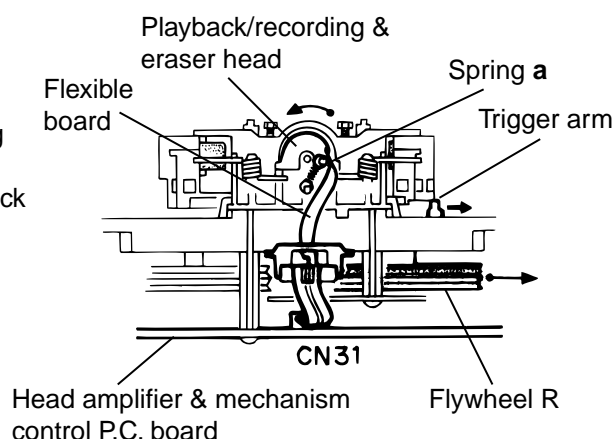

Fig. 2
2. When the flywheel R is rotated in counterclockwise direction, the playback/recording & eraser head will be turned in counterclockwise direction from the position in Fig. 2 to that in Fig. 3.